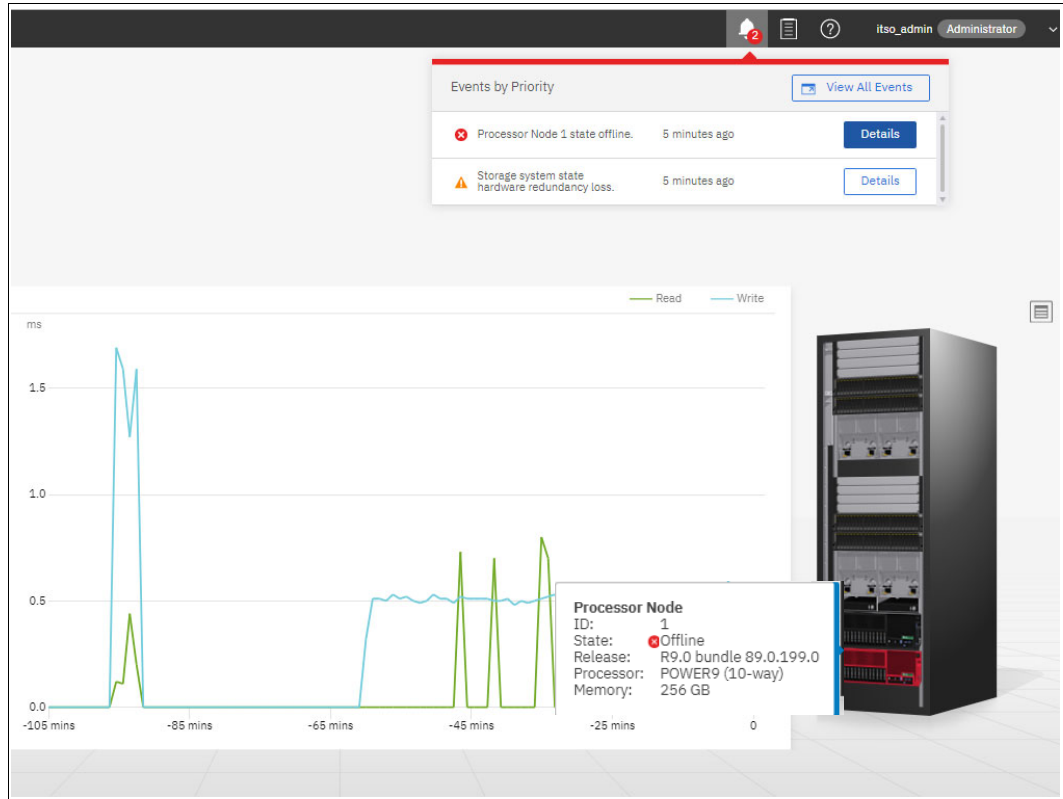

Figure 9-99 Hardware view with a failed processor node
- ▶ Failed processor node: Figure 9-99 on page 298 shows the Hardware view with a failed processor node. Hovering your cursor over the node provides more information about this component.